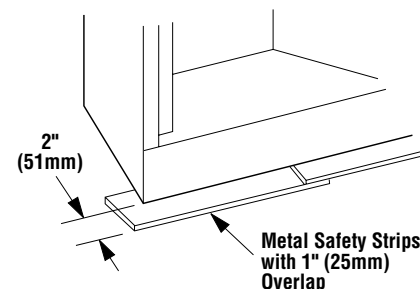

Figure 8
- 5.1. See **Figure 8**, below. Insert the damper link through the inner transition flange, and then place the inner transition collar over the inner transition flange.
The safety strips should extend from front and sides of the fireplace 2" (51 mm). In the event a wooden support is used to elevate the fireplace above the floor, a "Z" type safety strip should be fabricated and used to protect the front surface of the wood support as well as the floor beneath the hearth extension (see **Figures 8 and 9, below**). The safety strips should be tacked down to prevent possible movement.